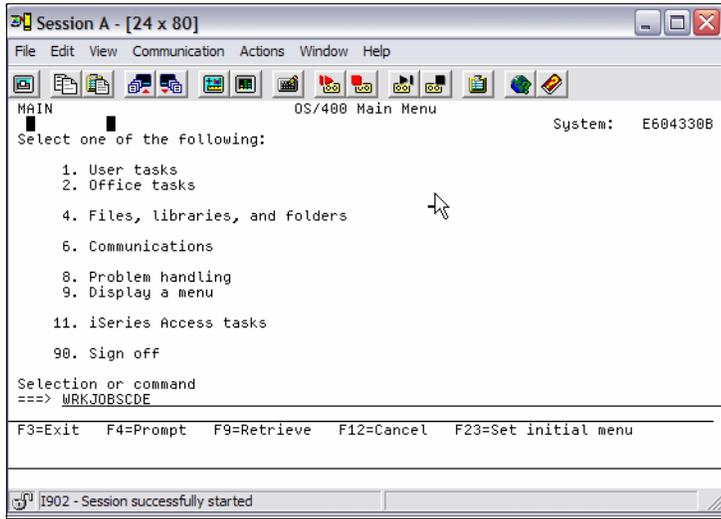

Figure 11-37 `wrkjobsdcde -io-add`
- ▶ From the i5/OS main menu, run the command `wrkjobsdcde` and press Enter, then press F6 to add the entry (Figure 11-37).